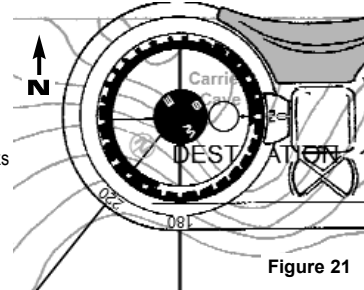

Figure 21
2. Using the 181° to 360° scale, read bearing where the bearing line intersects the protractor. (Fig 21)